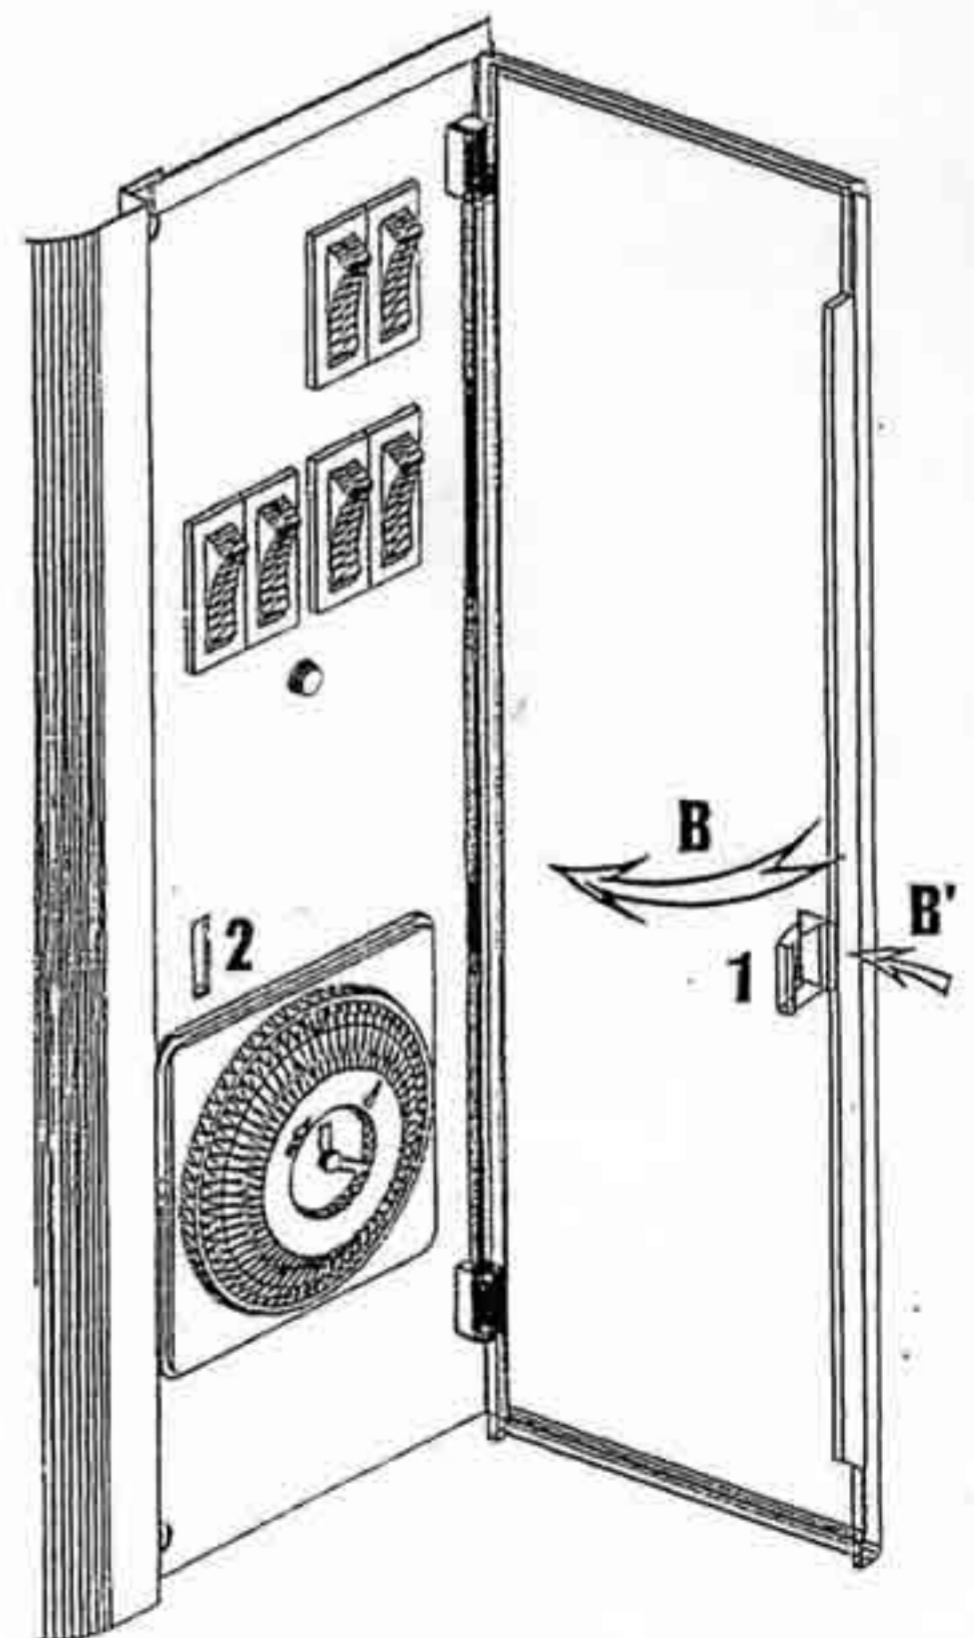

Figure 11
To close the cover (arrow B'), push on the front (arrow B) until the clear plastic part (1) snaps closed (Fig. 11).